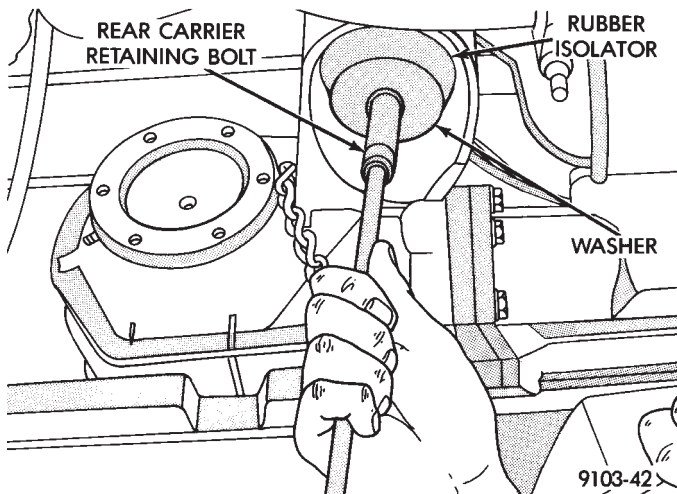

Fig. 4 Rear Drive Line Module Assembly Rear Mounting Bolts
- (8) Remove rear drive line module assembly rear mounting bolts (Fig. 4).